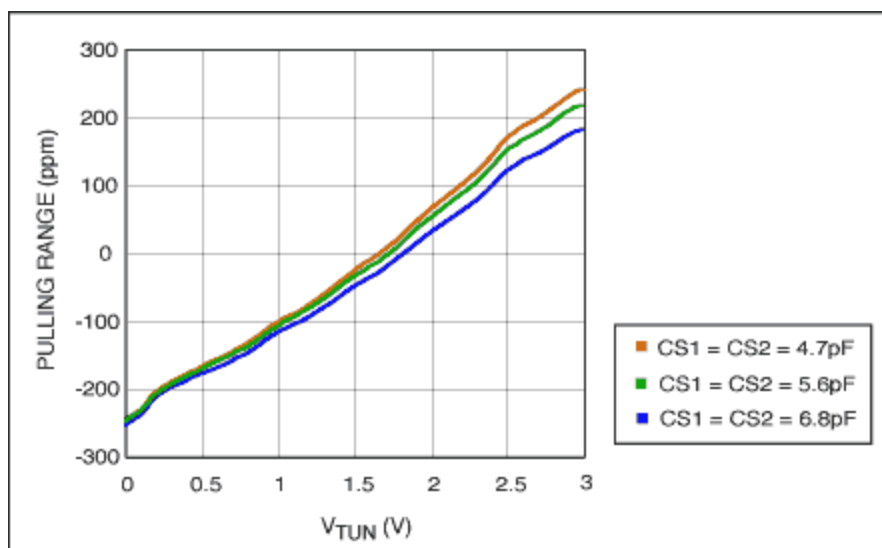
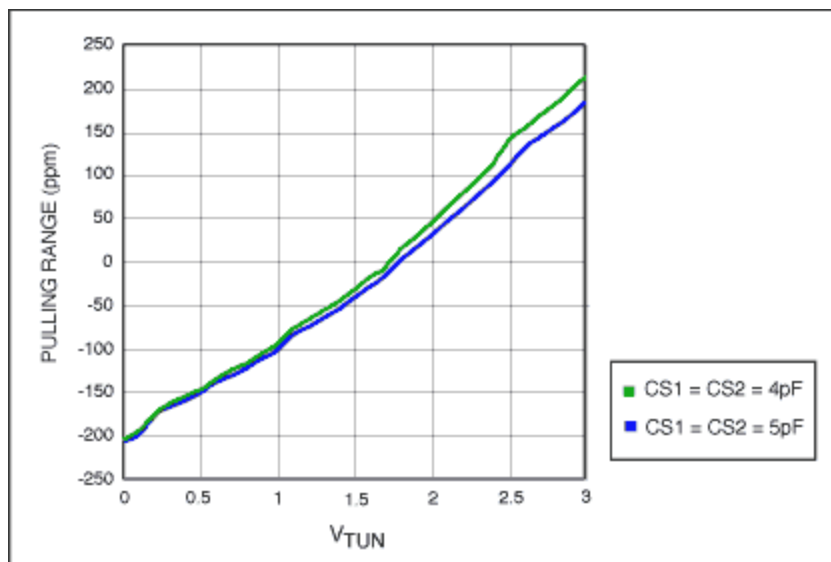

Figure 3.
Figure 4.
The quality and characteristics of a VCXO CLK generator can be affected by the selection of crystals and the PCB layout. In selection of crystal, beside the frequency, package, accuracy, and operation temperature range, for a VCXO application, users must pay attention on the equivalent series resistance and loading capacitance. The series resistance provides a power consumption measure of the crystal. The less the resistance value is, the easier the oscillator starts up. The loading capacitance is an important parameter for a crystal. First of all, it determines the resonating frequency of the crystal. Normally, the marked frequency of a crystal implies the resonating frequency of the crystal after connected the specified loading capacitance in parallel with it. It should be pointed out that this marked frequency is equal to the value obtained from Equation (1) when C_L equals to the specified load capacitance, but this is not the value from $1/(2\pi\sqrt{L_1C_1})$. Therefore, it is clear that the tuning range of a VCXO is closely related to the value of C_L . For a small value of load capacitance, the VCXO tuning range is limited in upper side; likewise a large value of the capacitance reduces the tuning range in lower side. The right value of loading capacitance to use is depending on the character of the VCXO. For instance, in MAX9485 design to balance the tuning range, the center of the tuning curve, and the ease of board design, we have chosen a 27MHz crystal with a 14pf load capacitance from Ecliptek (ECX-5527-27) [2]. With such a crystal, MAX9485 can provide a pulling range of ± 200 ppm, see **Figure 3**. It should be mentioned that the pulling range of a crystal also varies with the package. Usually, a metal canned package has larger pulling range than surface mounted device (SMD). However, recently DAISHINKU Corp [5] has made a new SMD crystal that can provide a similar pulling range as a metal canned crystal. We have tested the SMD crystal (DSX530GA) and found out that the tuning range is about ± 200 ppm with two 4pf shunt capacitors, see **Figure 4**.